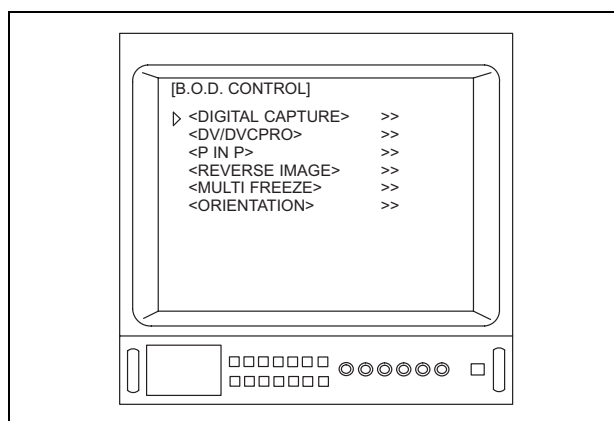

Figure 5.94
4. Depress the menu switches "◀" or "▶", or the "↑/↓/←/→" key on the keyboard to move the arrow "▷" to "DIGITAL CAPTURE" (see Figure 5.94).
Depending upon which B.O.D.s are installed in the OTV-S7V, the menu shown in Figure 5.94 may appear different from that displayed on the video monitor.